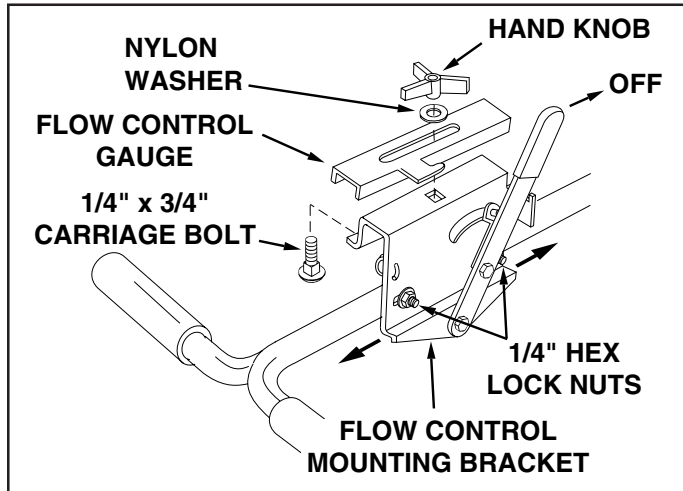

FIGURE 11
24. Assemble the flow control gauge onto the flow control mounting bracket using a 1/4" x 3/4" carriage bolt, a nylon washer and the hand knob. See figure 11.
25. Push the flow control arm forward to the off position and slide flow control mounting bracket toward hopper until closure plate (bottom of hopper) is fully closed. Carefully tighten the 1/4" hex lock nuts without deforming the slots. The closure plate should open half way when the flow control gauge is set at "5". Reposition the flow control mounting bracket as necessary. See figure 11.